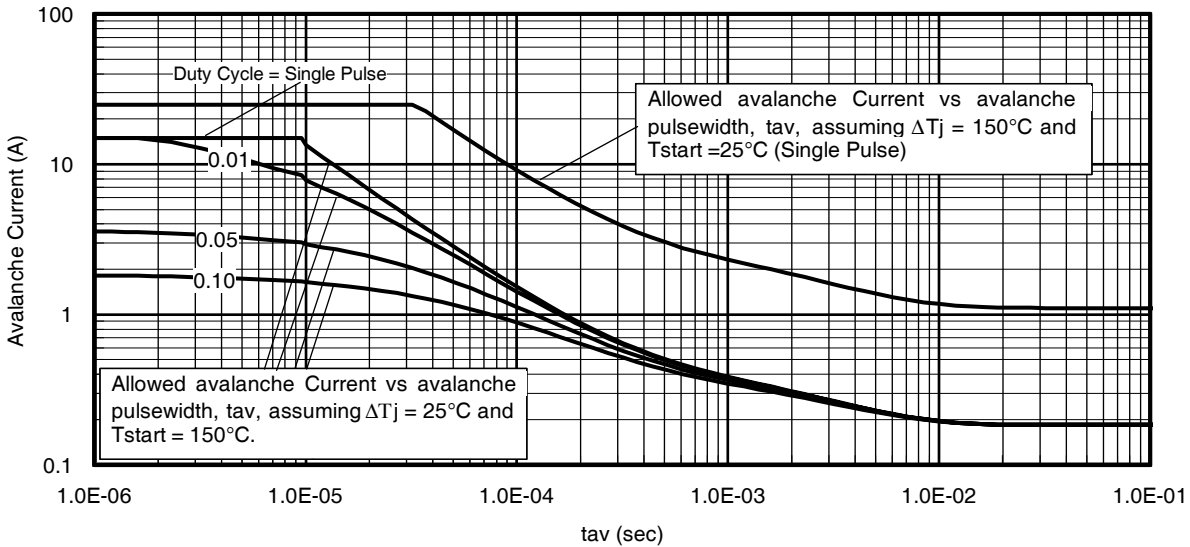

Fig 14. Typical Avalanche Current Vs. Pulsewidth
- ① Repetitive rating; pulse width limited by max. junction temperature.
- ② Starting T_J = 25°C, L = 1.00mH, R_G = 25Ω, I_{AS} = 15A.
- ③ Pulse width ≤ 400μs; duty cycle ≤ 2%.
- ④ R_θ is measured at T_J of approximately 90°C.
- ⑤ Limited by T_{jmax}. See Figs. 14, 15, 17a, 17b for repetitive avalanche information
Notes on Repetitive Avalanche Curves, Figures 14, 15:
7. ΔT = Allowable rise in junction temperature, not to exceed T_{jmax} (assumed as 25°C in Figure 14, 15).